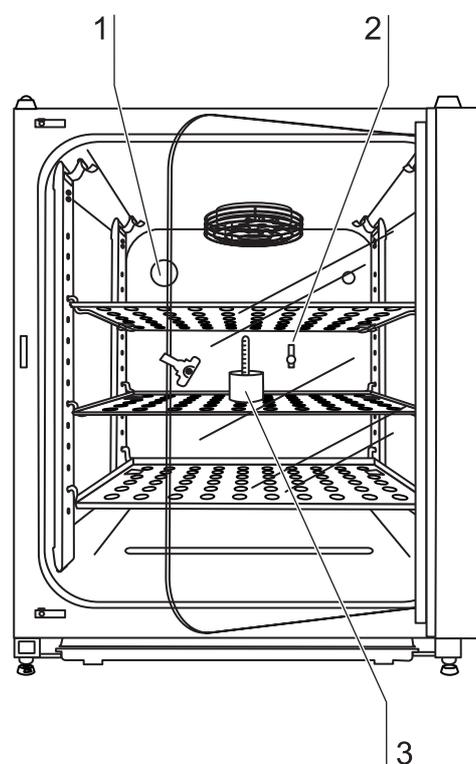

Fig. 23
3. **Fig. 23:** Place measuring instrument [3] onto the center area of the work space.